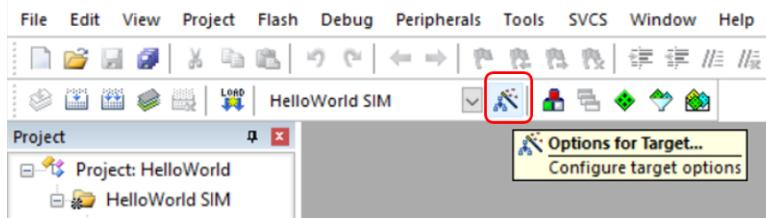

Figure 8.11: Keil IDE: Target Options Configuration
1. Bring up the target option configuration window by pressing the target options button (See Figure 8.11).